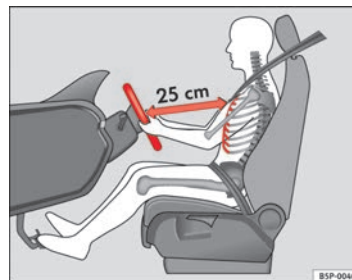

Fig. 115 Proper sitting position for driver
- Adjust the steering wheel until the correct position is set ⇒ fig. 115.
- Adjust the driver seat or steering wheel so that there is a distance of at least 25 cm between the steering wheel and your chest ⇒ **fig. 115**. If you fail to observe the minimum distance, the airbag will not protect you. Risk of fatal injury.